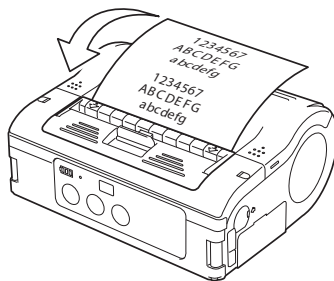

Figure 4-22, Pulling the Printed Label Toward You
2. Press the FEED button to feed a label (assuming that I-mark sensor is being used). When the feeding stops, tear off the label correctly by pulling the label in the direction of the arrow shown in Figure 4-22. The label is now aligned properly for printing to resume.